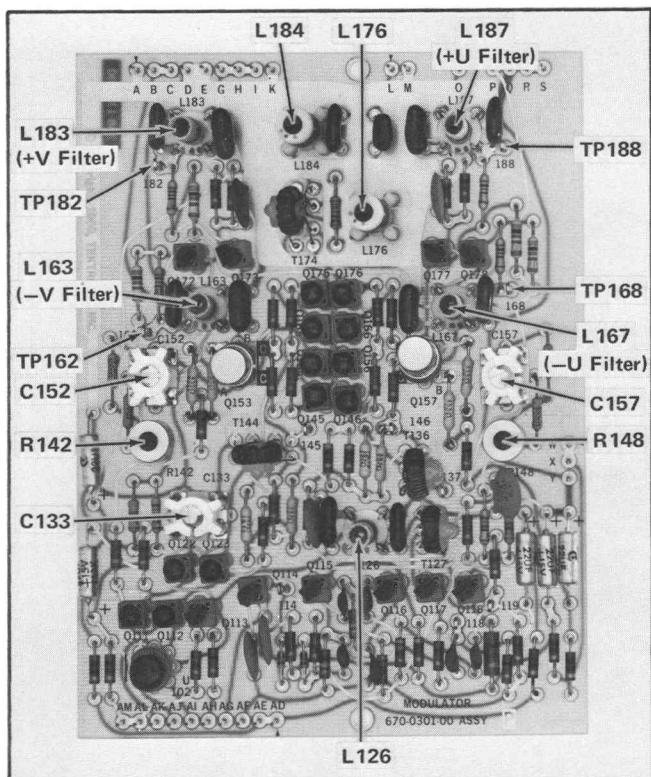
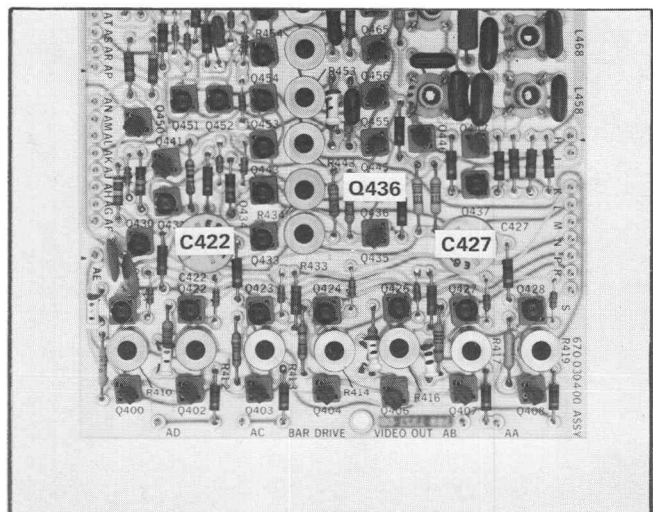

Fig. 5-14. Modulator board adjustment and test point locations.
Fig. 5-19. Transistor and adjustment locations on the Bar Drive and Video Out board.
d. Connect the 10X probe tip to TP188 on the Modulator board (see Fig. 5-14).
g. ADJUST—C157, R148, C152, and R142, (see Fig. 5-14) for minimum peak-to-peak chrominance on the blanking level.
i. ADJUST—C133 (see Fig. 5-14) until the requirement in part h is met. Adjustment of C133 has the most effect on the V axis display. Fig. 5-16D shows an improper display.
e. ADJUST—L126 (see Fig. 5-14) for best color bar overlay; must be within 10 mV. (See Fig. 5-17B for improper display.)
c. Remove Q436; see Fig. 5-19.
- g. ADJUST—C422, see Fig. 5-19, and readjust L163, see Fig. 5-14, for minimum 3.57 MHz aberration between burst and the first color bar.
- i. ADJUST—C427, see Fig. 5-19, and readjust L167, see Fig. 5-14, for minimum 3.57 MHz aberration between burst and the first color bar.
e. ADJUST—L176 and L184, see Fig. 5-14, for (1) best green-magenta transition; (2) best square corner on the magenta chrominance; (3) best overlay of the displays. See Fig. 5-20B.